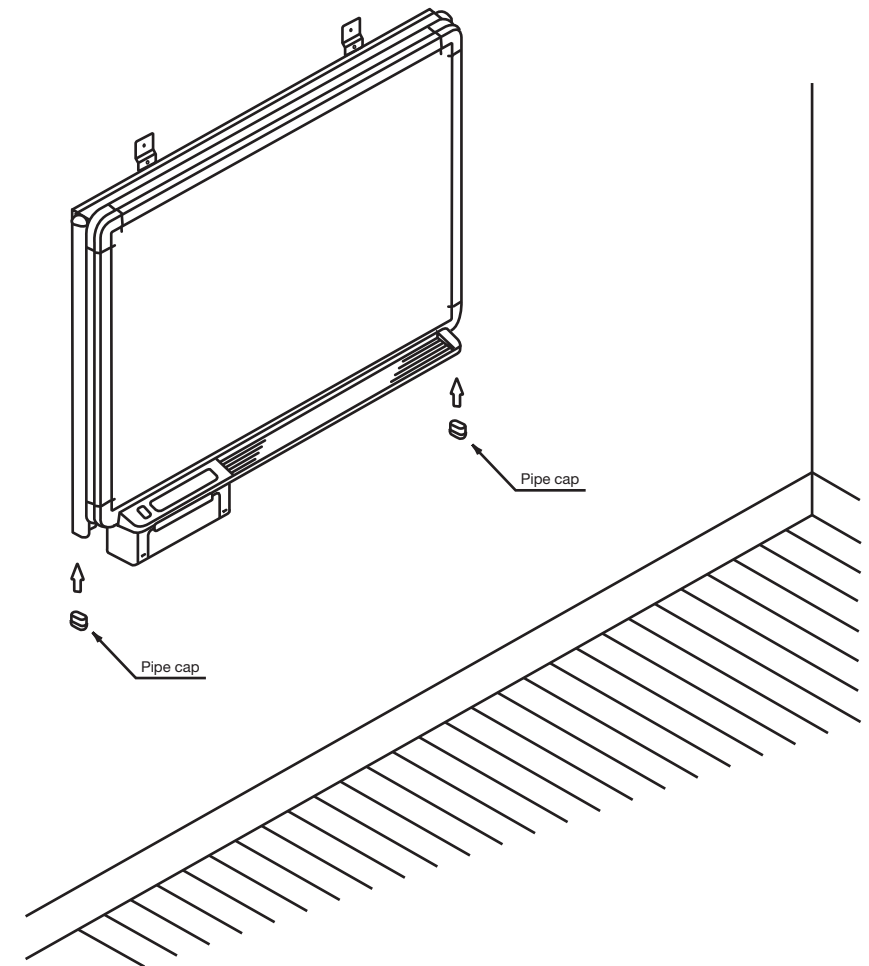

Fig. 6
7. Install the pipe cap at the right and left of the copyboard. (Fig. 6)